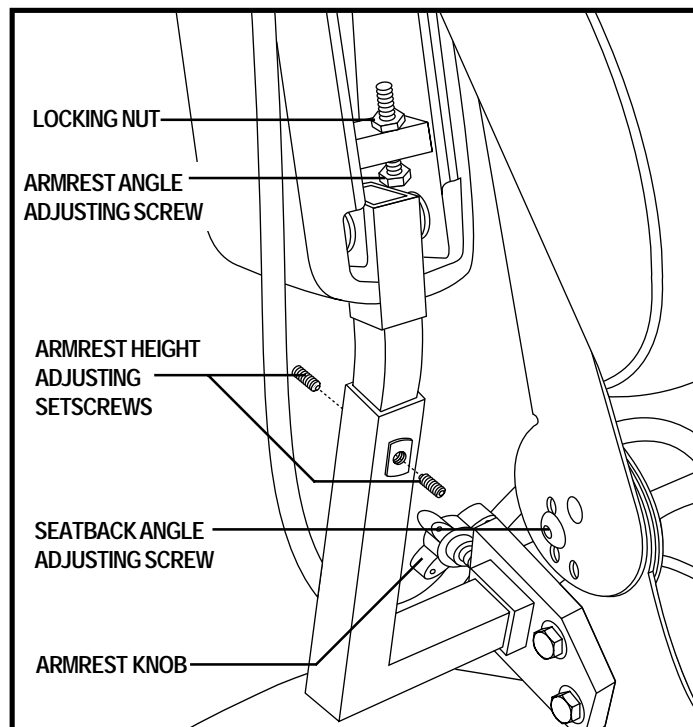

Figure 14. Seatback and Armrest Adjustment
1. Remove the adjusting screws from each seat hinge. See figure 14.
1. Locate the two armrest knobs on each side of the armrest receiver bracket. See figure 14.
1. Lift the armrest straight up so that it is perpendicular to the floor. See figure 14.
1. Loosen the two setscrews located on the armrest receiver. See figure 14.